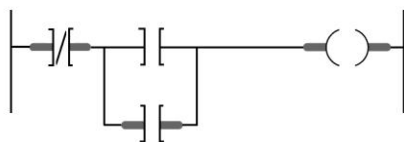

Figure 5-17 Ladder rung for question 39.
39. The highlighted rungs in the program rung shown in Figure 5-17 indicate 39. _____